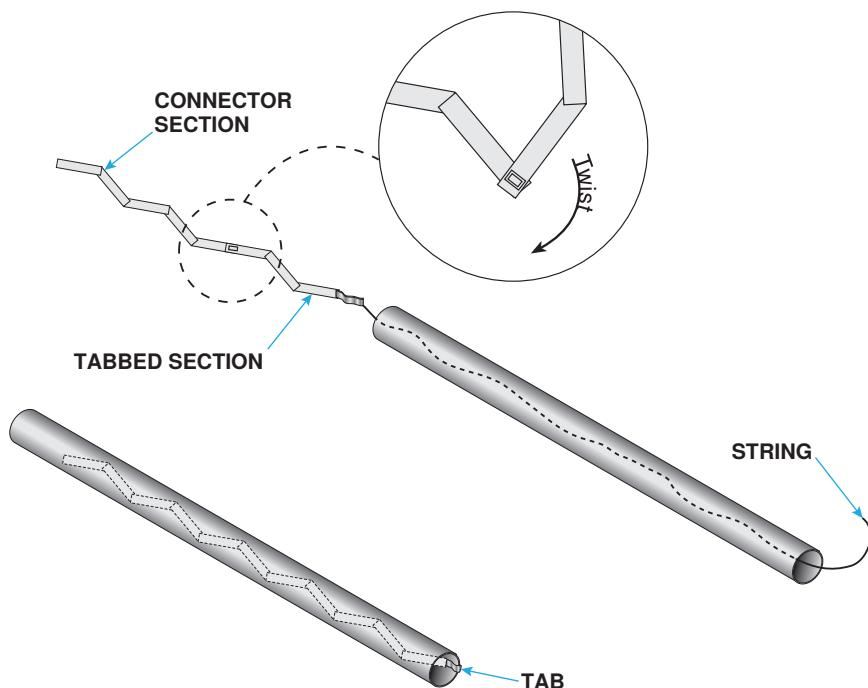

Figure 7. Turbulator Installation
- a. Interlock turbulator sections as shown in **Figure 7** and slide assembly into extension tube. String may be used as shown to position turbulator.
- b. Fold tab around downstream end of tube as shown in **Figure 7** to secure turbulator.